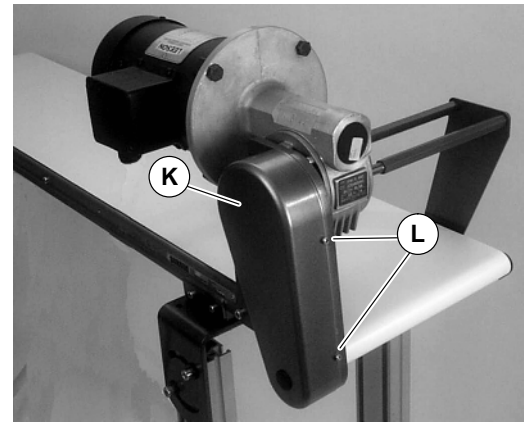

Figure 13
11. Install cover (K of Figure 13) with four (4) screws (L). Tighten to 35 in-lb (4 Nm).
1. Remove four (4) screws (L of Figure 13) and remove cover (K).
4. Install cover (K of Figure 13) with four (4) screws (L). Tighten to 35 in-lb (4 Nm).
6. Install cover (K of Figure 13) with four (4) screws (L). Tighten to 35 in-lb (4 Nm).